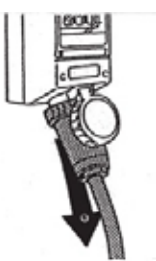

fig.114
1. Disconnect the power at the line disconnecter and signal that work is in progress. (fig.114)